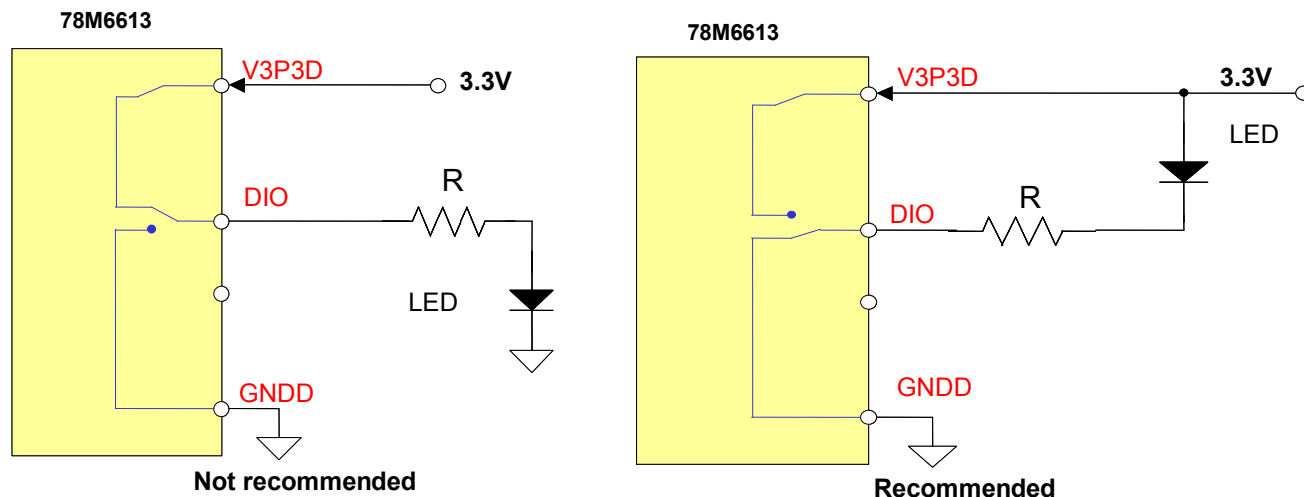

Figure 3: Connecting an External Load to DIO Pins
**When driving LEDs, relay coils etc., the DIO pins should sink the current into ground (as shown in Figure 3, right), not source it from V3P3 (as in Figure 3, left).**